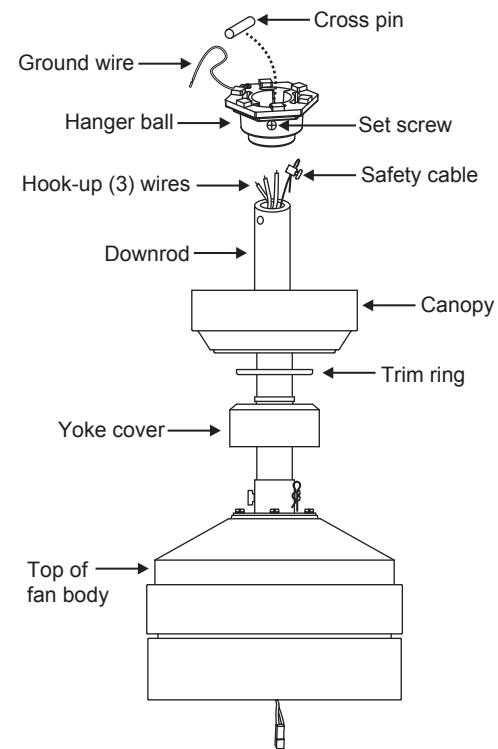

Fig. 3
- 6 Slip the yoke cover, trim ring and canopy onto the downrod. (Fig. 3)
- 1 Remove the existing wall plate and old switch from the wall outlet box. (Fig. 3)